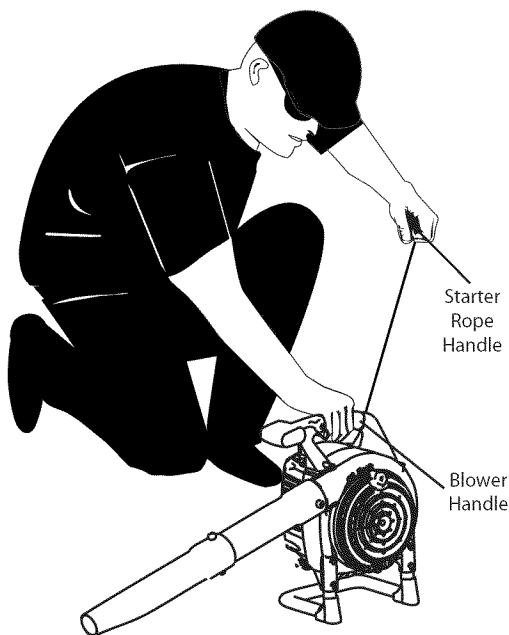

Fig. 10
3. Place the unit firmly on the ground or a very sturdy work surface. Make sure all bystanders are a minimum of 50 feet (15 m) away. Do not attempt to start near pilot lights or any open flame. Do not smoke. Grasp the Blower Handle with one hand and Starter Rope with the other (Fig. 10).
4. With the unit in the starting position, pull the rope smoothly and briskly (Fig. 10). Do not squeeze the throttle control. The engine should start with 3-5 pulls. Once warm, the engine should start on the first pull.
AVOID ACCIDENTAL STARTING. MAKE SURE YOU ARE IN THE STARTING POSITION WHEN PULLING THE STARTER ROPE (FIG. 10). TO AVOID SERIOUS INJURY, THE OPERATOR AND UNIT MUST BE IN A STABLE POSITION WHILE STARTING. MAKE SURE THAT ANY ADD-ON ITEM IS INSTALLED CORRECTLY AND SECURE BEFORE STARTING UNIT.